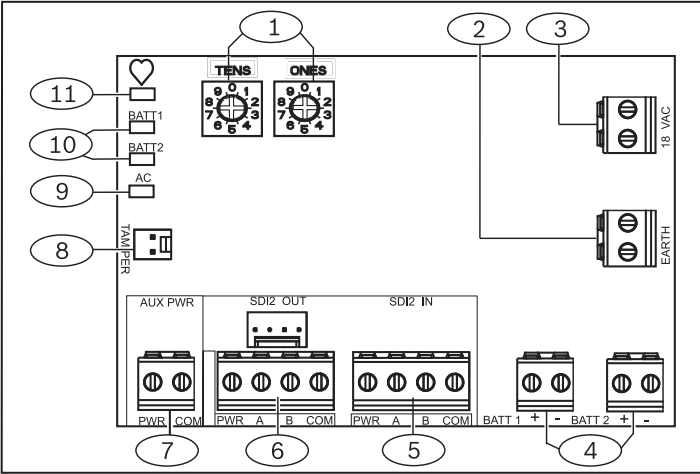

Figure 1.1: Board overview
2. Plug the tamper switch wire onto the module's tamper switch connector. Refer to *Figure 1.1*.